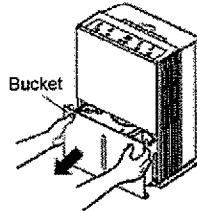

Fig. 1
1. Remove the bucket from the dehumidifier (Fig. 1)
1. Tilt the dehumidifier no more than 45° and forcibly insert the casters. Make sure the ring around the caster is flush against the bottom of the dehumidifier (Fig. 1)
1. Pull out the bucket, grasping the side handles. (Fig. 1)